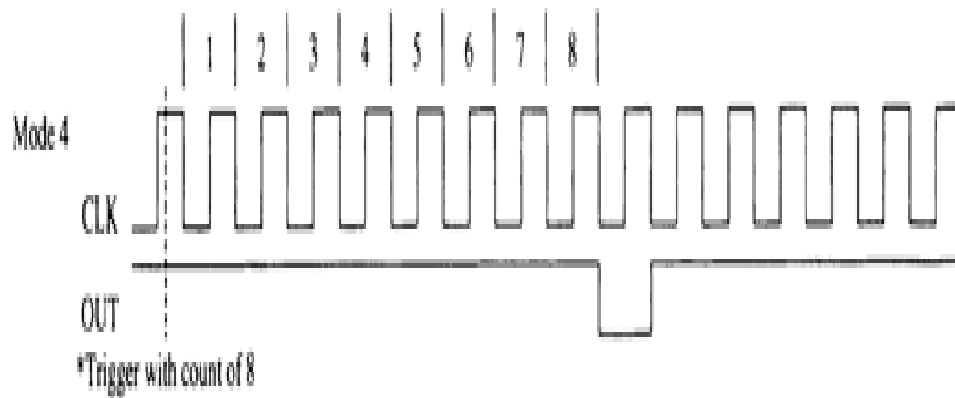

Figure 93 : Timinng diagram - MODE 4
1. OUT will initially be high(Figure 93).